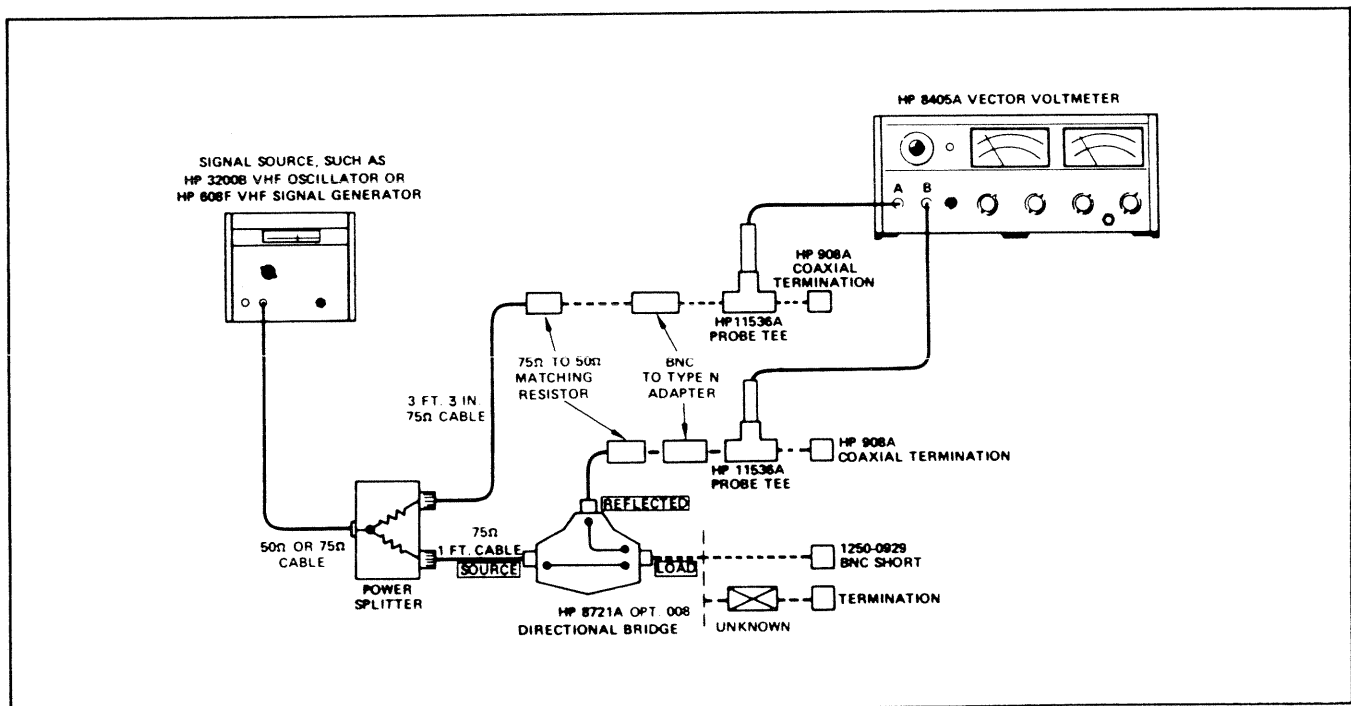

Figure 7. Setup for Making Reflection Measurements with HP 8405A
- a. Setup the equipment as shown in Figure 7. Be sure to use the cable lengths specified (from the